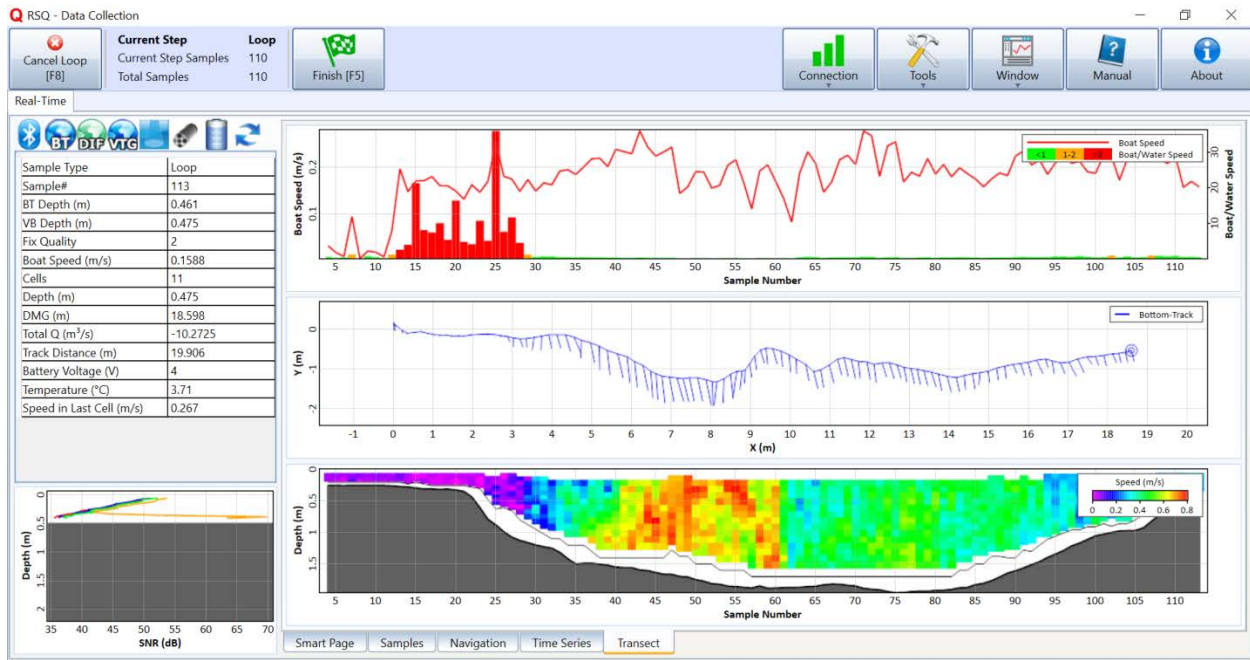
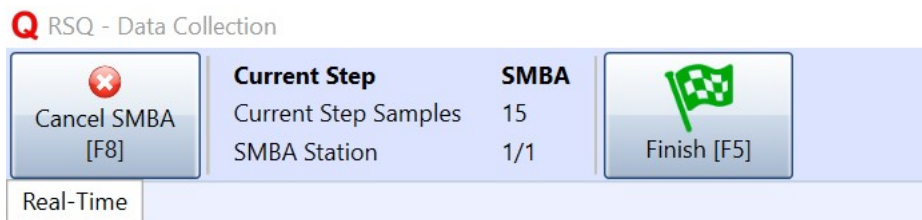

Figure 72. Loop Measurement Dialog
Figure 76. SMBA Status
5. Once started, the Loop measurement data will appear, as shown in Figure 72, and the user should begin moving the RS5 across the section. By default, the Boat Speed and Boat/Water Speed Ratio will be plotted on top. It is essential that the user maintain a steady, slow boat speed throughout the out-and-back transect. Per the recommendation from Mueller and Wagner (2006), the boat speed should be the lesser of a.) the boat speed that requires no less than 3-minutes to complete the loop or b.) the boat speed that is less than 1.5 times the mean water speed. The ship track and velocity profile are also plotted.
4. The SMBA data collection will begin, and the same data will appear as shown for the Loop measurement (Figure 72). To track the progress of the measurement, the top left area of the RSQ software will display the current number of samples (shown in Figure 76).